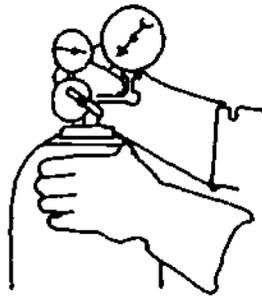

Figure 18-7. Releasing Regulator Adjusting Screws
d) Release the regulator-adjusting screws and open the cylinder valves (Figure 18-7).